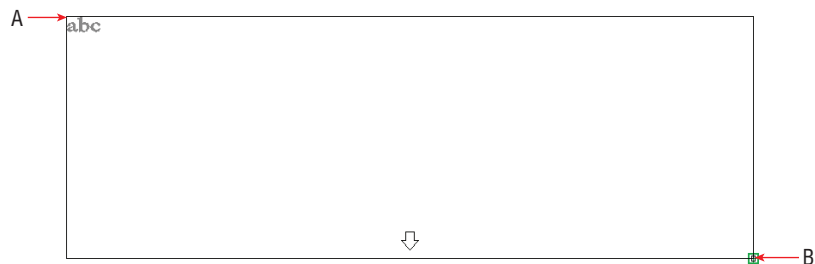

FIGURE 10.8 Specifying the opposite corners of a block of multiline text
4. Open the menu under the Text tool on the Annotation panel, and select Multiline Text from the menu. Click points A and B, as shown in Figure 10.8.